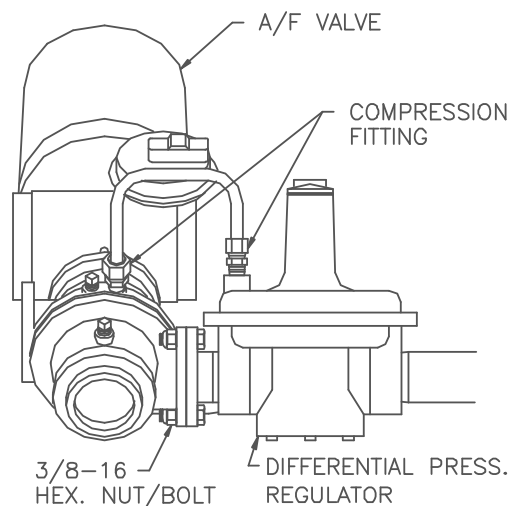

Figure 6.15
16. Using an 11/16" wrench, loosen the compression fittings on the feedback tube between the air/fuel valve and the differential pressure regulator. Remove the feedback tube, (See Fig. 6.15).
17. Using two 9/16" wrenches remove the two 3/8-16 hex nuts and bolts securing the air/fuel valve to the differential pressure regulator, (See Fig. 6.15).